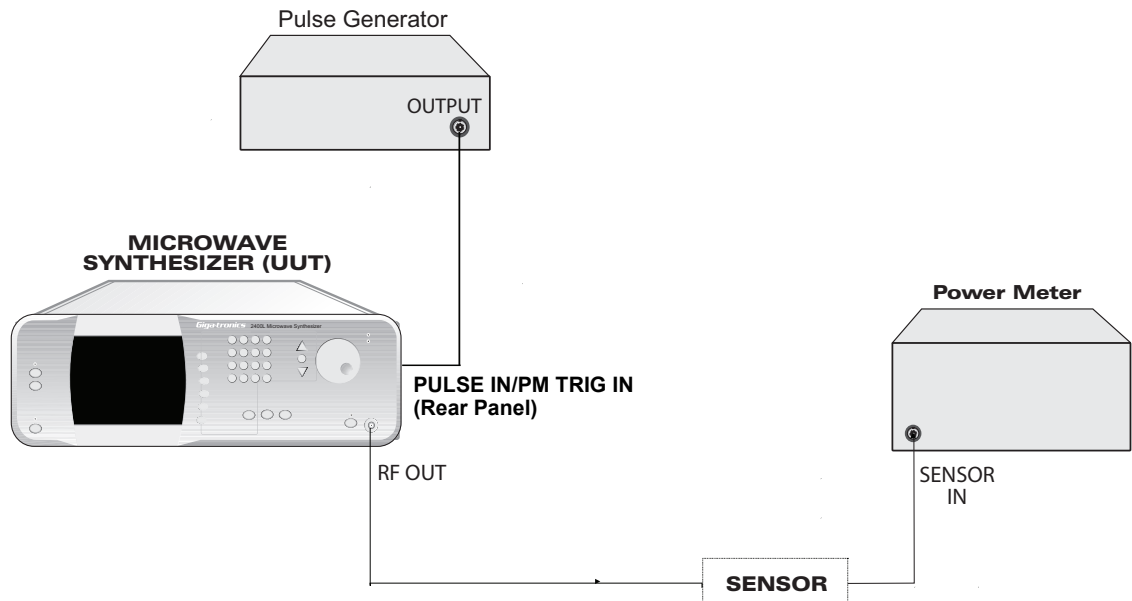

Figure 4-8: Pulse Modulation Level Accuracy Test
1. Connect the test equipment and UUT as shown in Figure 4-8.